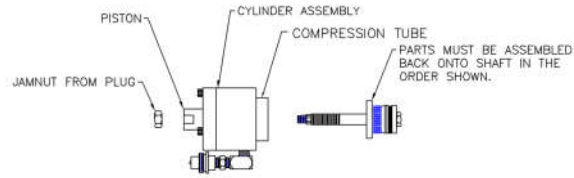

FIGURE 3
3. For sizes that have a 7/8 diameter shaft and larger, remove the jam nut from the NPT end of the plug. Holding the wrench flats on the cylinder, insert the shaft assembly into the rear of the Auto-GripTight Cylinder as shown in figure 3 & 4. The shaft assembly will engage the threads in cylinder ID. Keep threading the plug into the cylinder. To allow proper operation of Auto-GripTight, the grippers should be in the relaxed position, roughly the same diameter as the cones and seals. If excess space exists between parts, the shaft assembly should be threaded into cylinder an additional amount to remove the slack. With adjustments complete, hand-tighten the jam nut on the shaft assembly against the cylinder piston.